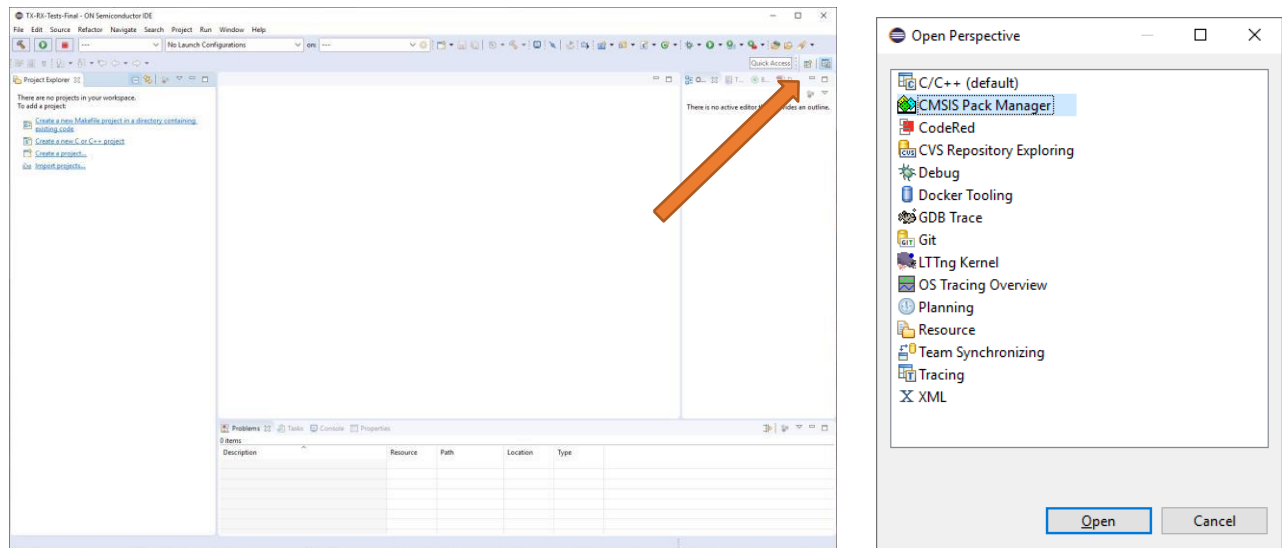

Figure 3: Open CMSIS Pack Manager perspective
3. In the top right corner of the workbench perspective, click on the *Open Perspective* icon, select *CMSIS Pack Manager*, then click *Open*. (See Figure 3).